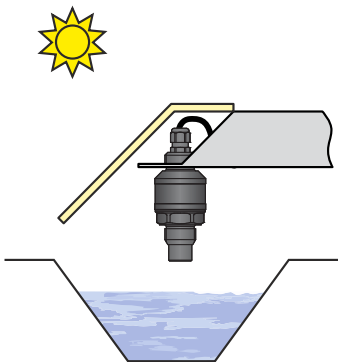

Fig. 12: Shielding cover against direct sunlight
- The measuring device shall not be installed in **places with direct sunlight** and shall be protected against weather conditions. If installation in places with direct sunlight is inevitable, it is necessary to mount a shielding cover above the device (Fig. 12).